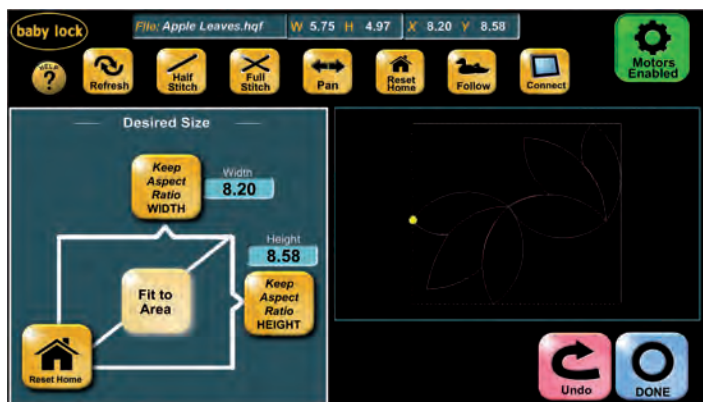

Figure 13
5. Verify that the pattern is now the correct size by looking at the top of the screen. The “W” and “H” values should now match the “Width” and “Height” values that were just measured (Figure 13). As an alternative, if the desired pattern dimensions are already known, the user can manually enter those values into the “Height” and “Width” boxes by pressing the number boxes and entering the values with the pop-up number pad.